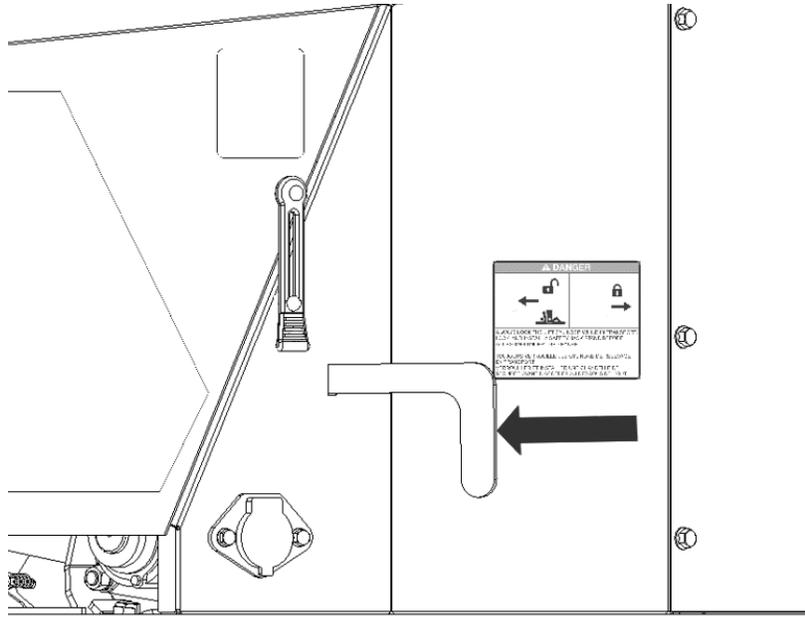

Figure 81 Unlocking the header lift cylinder
2. Push the handle **in** towards the harvester to unlock the header lift cylinder (Figure 81).